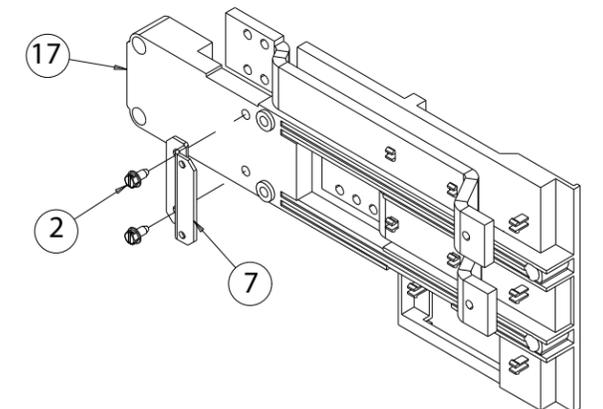

Figure 7
8. Reference fig. 7 - Attach Breaker Mounting Brackets (P4). Insert two 1/4-20 X 1/2" screws (item 2) through the two 0.438" diameter holes in the breaker mounting bracket (item 7) and into the threaded inserts on the strap support barrier (item 17) and tighten as shown.